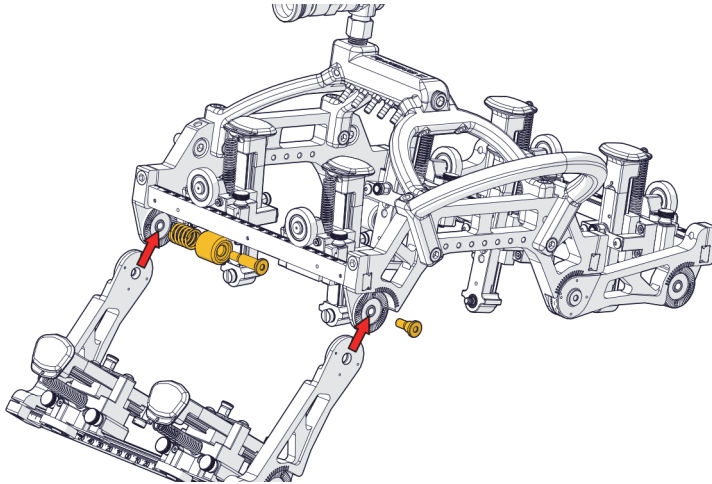

Figure 1-49 Positioning the probe module
2. Position and align the probe module section (see Figure 1-49 on page 61).